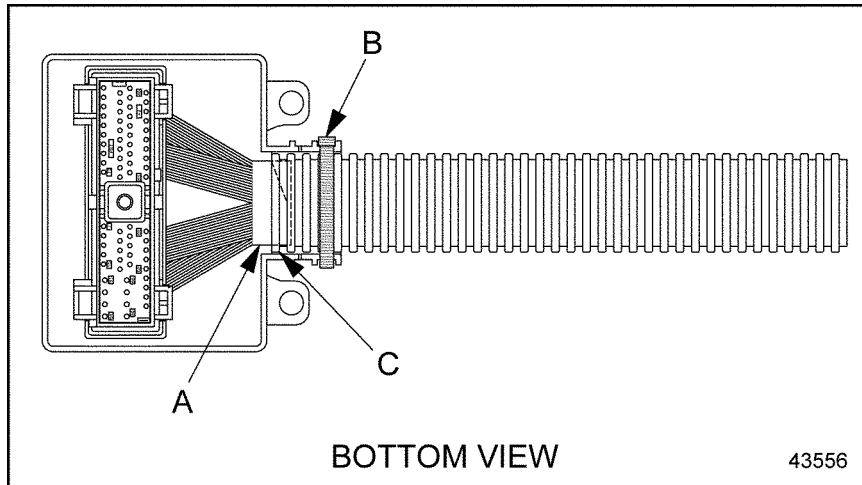

Figure 3-14 Bottom View of Shroud, ECU Connector and Conduit
1. Use heavy electrical tape where wires exit conduit into the shroud (see Figure 3-14, A).
2. Use a tie strap to secure the shroud to the conduit and connector (see Figure 3-14, B).
3. Check that the conduit extends past the innermost ring on the shroud inlet. The conduit **must** extend this far (see Figure 3-14, C).